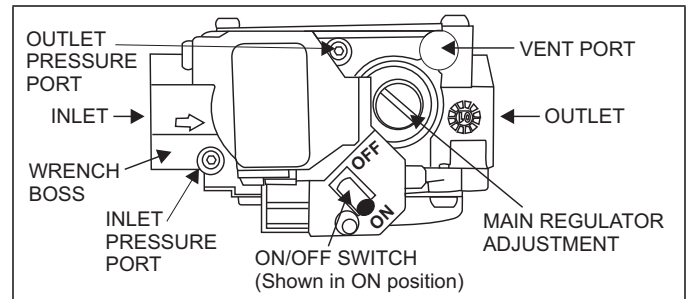

FIGURE 32: Gas Valve
Inlet and manifold gas pressure may be measured by connecting the "U" tube manometer to the gas valve with a piece of tubing. Follow the appropriate section in the instructions below. Refer to Figure 32 for the locations of the pressure ports on the gas valve.
Connect the positive side of the manometer to the IN P Tap on the gas valve. Do not connect any tubing to the negative side of the manometer, as it will reference atmospheric pressure. Refer to Figure 32 for connection details.
Connect the positive side of the manometer to the OUT P Tap on the gas valve. Do not connect any tubing to the negative side of the manometer, as it will reference atmospheric pressure. Refer to Figure 32 for connection details.
1. Refer to Figure 32 for location of pressure regulator adjustment cap and adjustment screws on main gas valve.